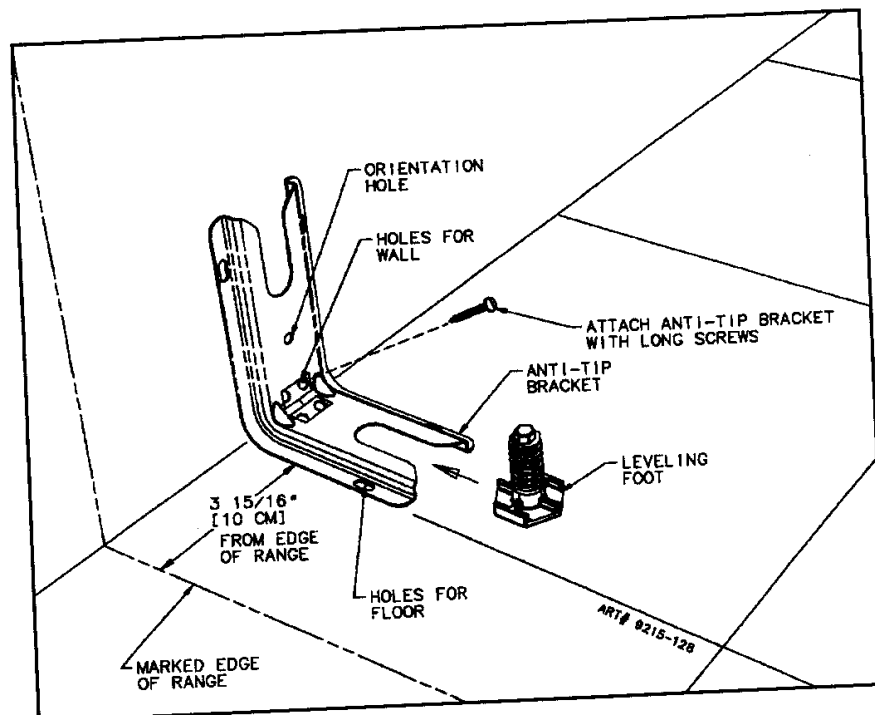
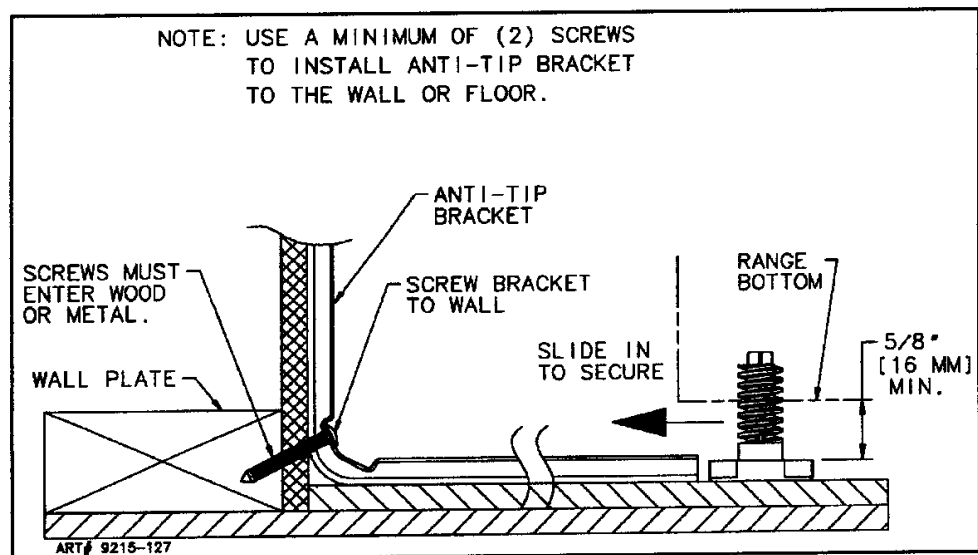

FIGURE 2
FIGURE 3
## STEP 1 - Locating The Bracket (see figure 2)
- Place the BRACKET 3-15/16" from the marked "EDGE" toward center of opening and against the back wall as shown in figure 2, with orientation hole against wall.
- Use the bracket as a template and mark the required holes, as shown in figure 2, for the type of construction you will be using.
- Floor:** Locate the center of the two holes identified in figure 2 as "HOLES FOR FLOOR". Drill a 1/8" pilot hole in the center of each hole (a nail or awl may be used if a drill is not available). Secure the ANTI-TIP bracket to the floor with the two screws provided. Proceed to STEP 3.
- Wall:** Locate the center of the two holes identified in figure 2 as "HOLES FOR WALL". Drill an angled 1/8" pilot hole in the center of each hole as shown in figure 3. (A nail or awl may be used if a drill is not available). Secure the ANTI-TIP bracket to the wall with the two screws provided as shown in figure 3. Proceed to STEP 3.
- Suitable screws for concrete construction can be obtained at the hardware store. Drill the required size hole for the screws obtained into the concrete at the center of the holes identified in figure 2 as "HOLES FOR FLOOR". Secure the ANTI-TIP bracket to the floor. Proceed to STEP 3.
- A. Align the range to its designated location and slide it back into position. Make sure that the leveling foot is fully inserted into and secured by the ANTI-TIP bracket. Note: A minimum clearance of 5/8" is required between the range and the leveling foot that will engage the ANTI-TIP bracket, see figure 3.